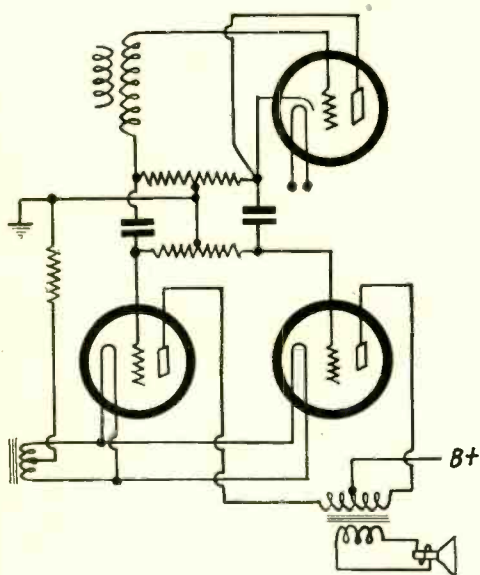
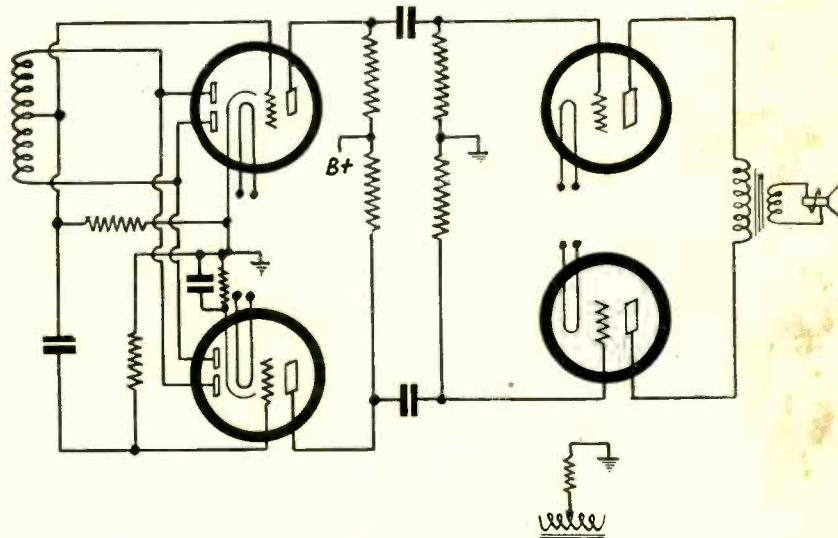

FIG. 1
FIG. 2
In Fig. 1 is a circuit that represents the
scheme, as in Fig. 2. Regarding the upper part of the circuit, it may be considered as single-sided audio after a diode detector, with the triode of the diode as first audio amplifier or driver, and the next tube as the output (45). We have shown that the cathode is positive to audio frequencies, therefore with grid of amplifier tied to left-hand extreme of the load resistor the bias on the tube is negative by the amount of the rectified voltage. That is, the bias is approximately equal to the signal voltage. The stronger the signal, the more negative the grid.
It will be noted that in general there seems no great need to worry about dynamic balance in Figs. 1 and 2, because the dynamic and static conditions are the same, and we do not have to equalize equality.
This would seem to be true all right of Fig. 1 when granting equalities of the push-pull tubes, the output transformer sections and the halves intended of the voltage load resistor of the diode. But in Fig. 2 we can not agree that balance has been struck. In fact, we built the circuit and measured it dynamically and know that balance is absent. The reason is clear enough.
The two tables are above. Fig. 1 is next and Fig. 2 is at extreme right. Fig. 1 shows the operation characteristics of the 19 with a 30 driver, Fig. 2 with a 31 driver.